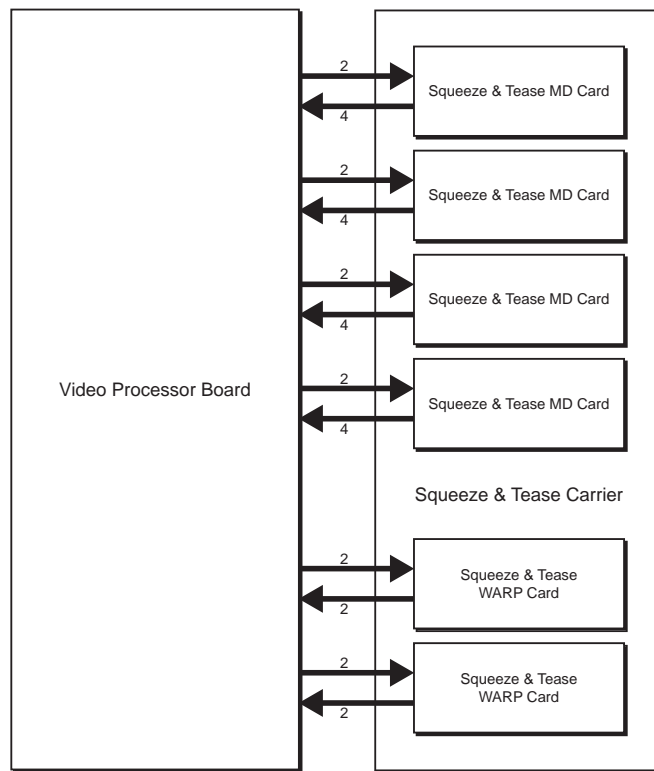

Figure 2.27 Video flow to and from a dedicated Squeeze & Tease Carrier
- **Slots 6 - 9** — The **Squeeze & Tease Carrier Boards** in **Slot 6** and **Slot 8** of the QMD-X frame support the **Video Processor Boards** in **Slot 7** and **Slot 9**, respectively. In this configuration, the **8** Squeeze & Tease DVE channel resources and **2** Squeeze & Tease WARP generators provided by each **Squeeze & Tease Carrier Board** in **Slot 6** are dedicated to the **Video Processor Board** in **Slot 7**. Similarly, the **8** Squeeze & Tease DVE channel resources and **2** Squeeze & Tease WARP generators provided by each **Squeeze & Tease Carrier Board** in **Slot 8** are dedicated to the **Video Processor Board** in **Slot 9** (**Figure 2.27**).
The **Squeeze & Tease Carrier Board** in **Slot 3** supports **MLE 1** and **MLE 2** (**Figure 2.27**), and the **Squeeze & Tease Carrier Board** in **Slot 8** supports **MLE 3** and **MLE 4**. Both have the same inputs and outputs, except for the MLEs they are supporting.
The MD frame has a single **Squeeze & Tease Carrier Board** (**Figure 2.27**) that supports the **Squeeze & Tease MD** and **WARP** cards that perform all of the Squeeze & Tease video manipulation for the switcher. When Squeeze & Tease resources are required by the switcher, the desired video signals are sent from the **Video Processor Board**, to the **Squeeze & Tease Carrier Board**. The video signals are then sent back to the **Video Processor Board**.